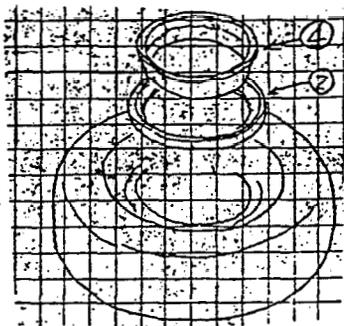
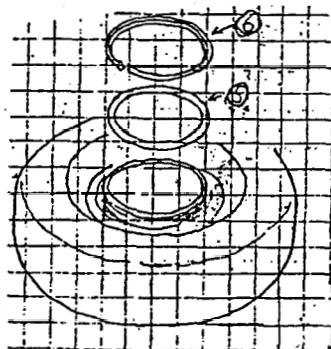

Fig. 3
Fig. 5
- 3) Install side ring ② and band ④. (Fig. 3)
- 4) Push in band ⑤ with a press. (Until the O-ring groove can be seen.)
- 5) Install O-ring ⑤ and ring ⑥. (Fig. 5)